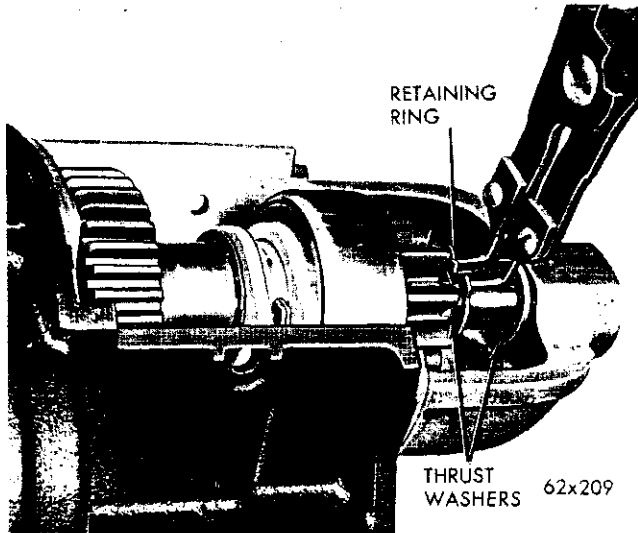

Fig. 31—Removing the Pinion Shaft Retainer Ring
(20) Release the retainer ring at the front of the pinion shaft (Fig. 31).
(6) Install the driven gear snap ring (Fig. 31).
(7) Install the pinion shaft retaining ring (Fig. 31). Make sure the ring fits tightly in the shaft groove.